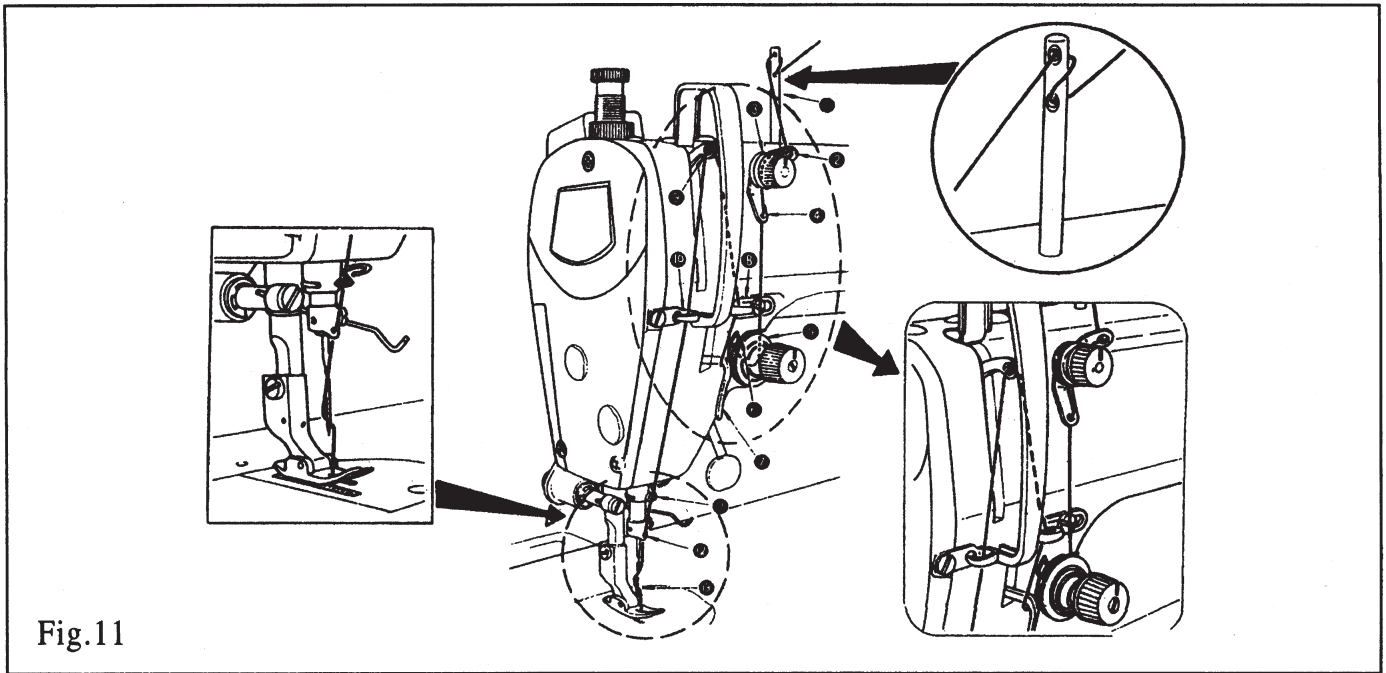

Fig.11
9.THREADING THE MACHINE HEAD(FIG.11)